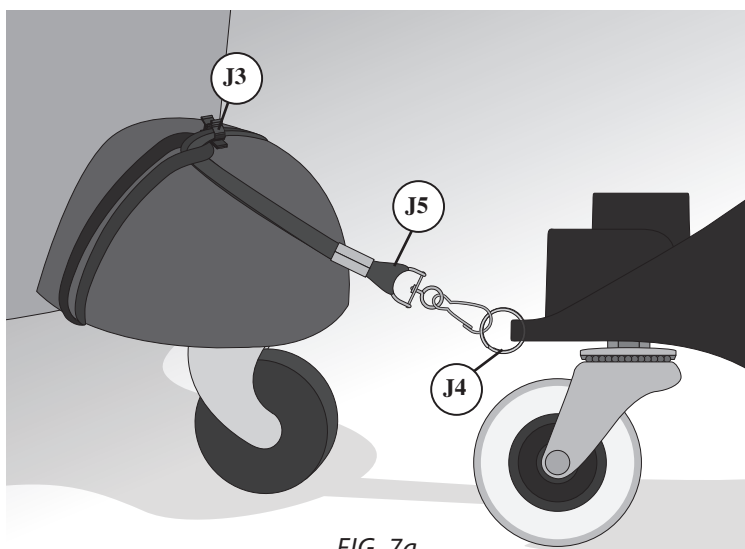

FIG. 7a
- a. Attach the Split Ring (J4) to the slot on the Caster Mount (G) and attach the Retainer Clip (J3) onto your vacuum's foot caster. Then loop the Lanyard (J5) around your vacuum's foot caster and through itself and the Retainer Clip. Finally, clip the Lanyard to the Split Ring [FIG 7a].